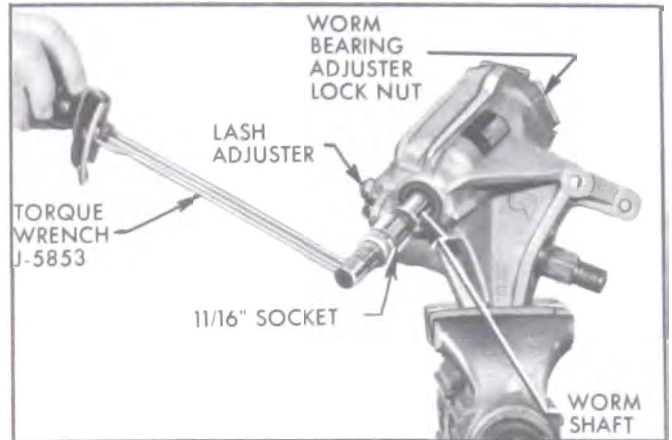

Figure 8-7—Checking Adjustments on Bench
1. Attach torque wrench J-5853 to worm shaft and turn shaft to extreme right or left position. See Figure 8-7.